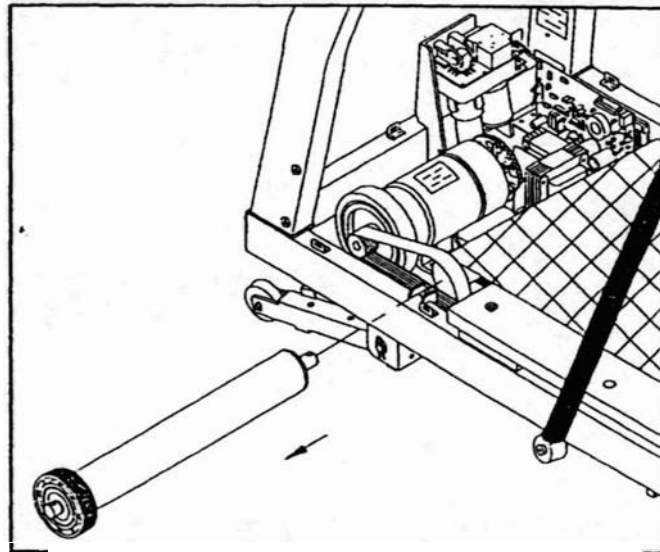

Fig.6
7.Remove the front roller from its bracket and slip from the running belt.(see Fig.6)